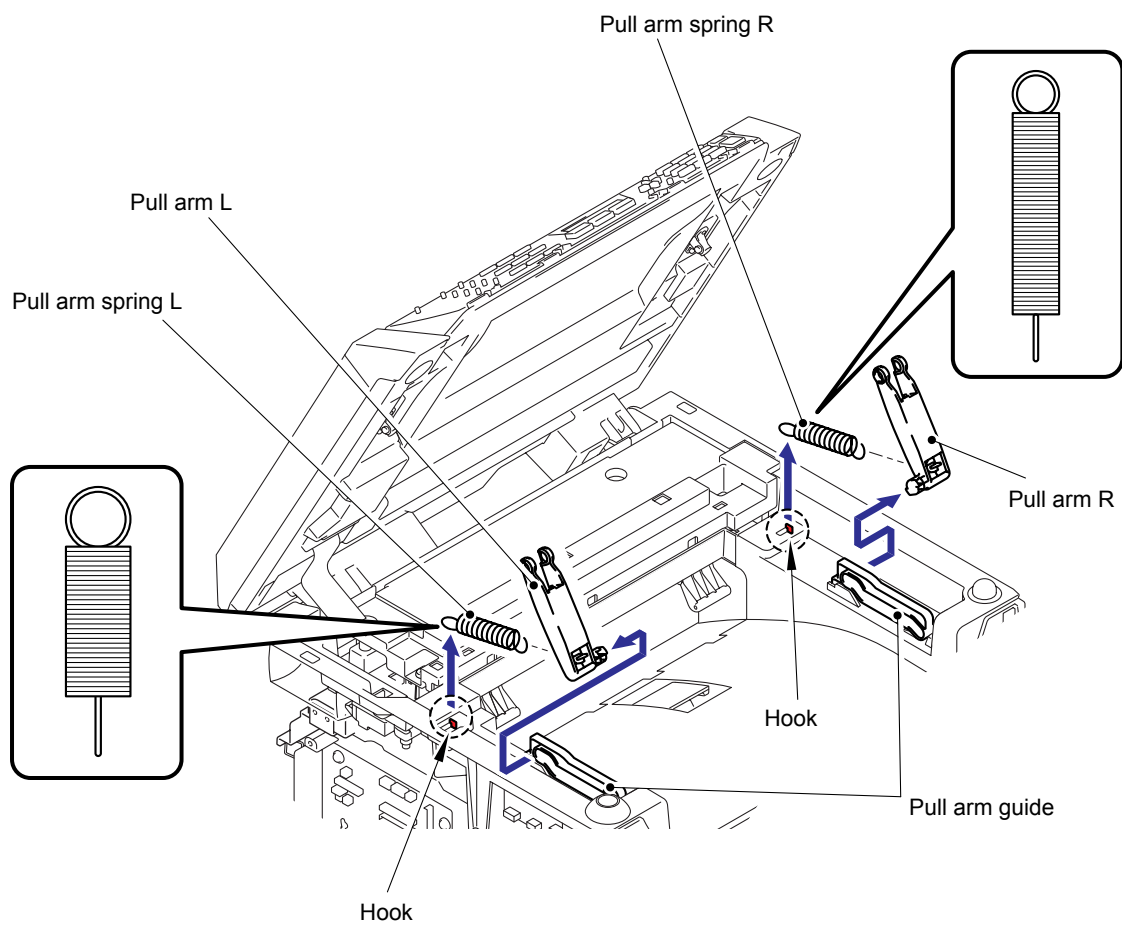

Fig. 5-163
- When assembling the Pull arm springs Left and Right, be sure to assemble each of the Pull arm spring correctly. (Left is shorter and thicker and Right is longer and thinner) See Fig. 5-163.
(6) Remove the Scanner unit from the Joint cover ASSY by lifting upwards.